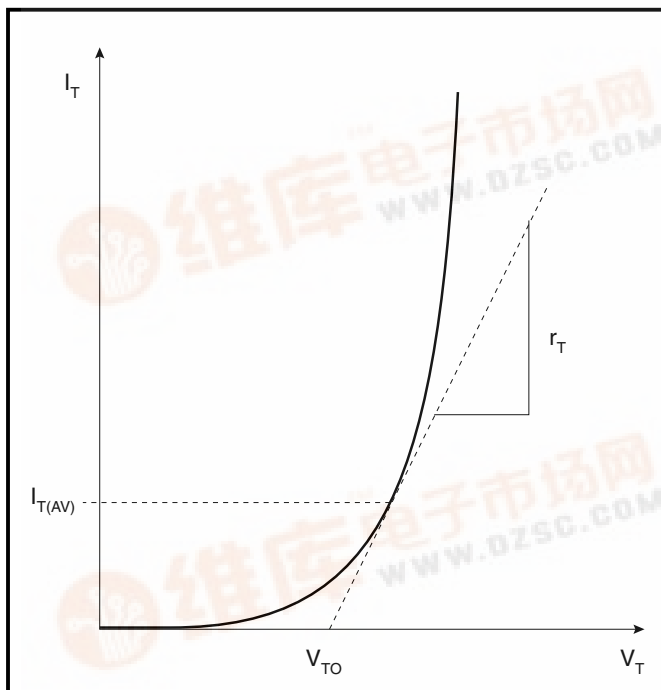

Fig.1
- 1) As fig. 1, where the line is the tangent to the V_{TM} vs I_T curve at the average current.